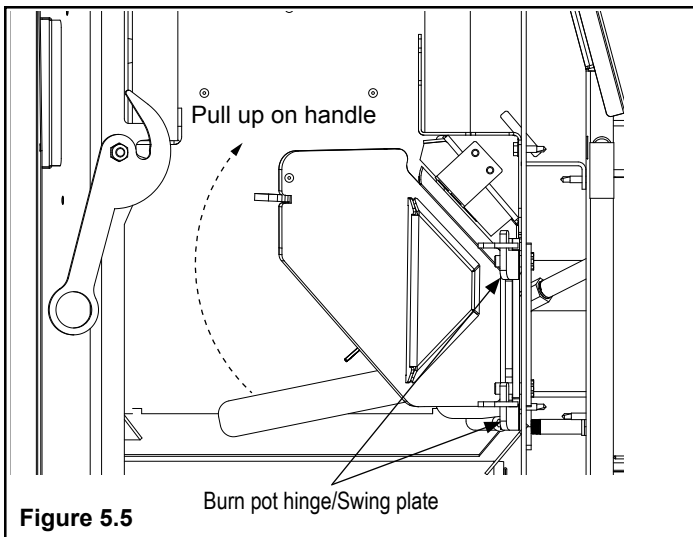

Figure 5.5
- Swing the latch handle up until you feel it contact the top of the swing plate. Then push upward until you see the burnpot swing out. Figure 5.5.